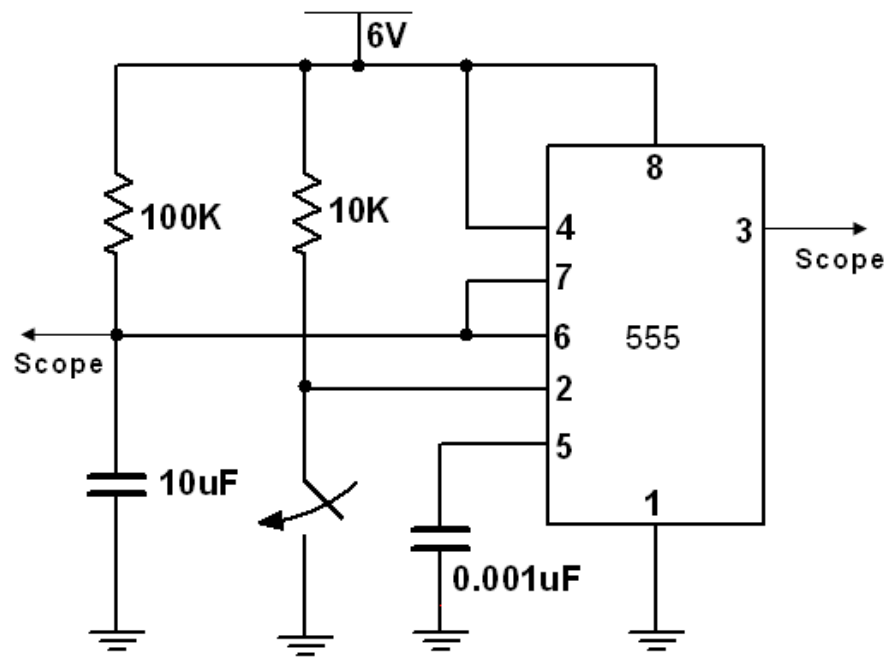

Fig 2
A high quality Multivibrators can be generated using 555 timer adding external resistors and capacitors. In this lab we will see the Monostable operation of 555 timer. The time delay is given by $1.1RC$ (See fig 2).
1. Connect the circuit as shown in fig 2.